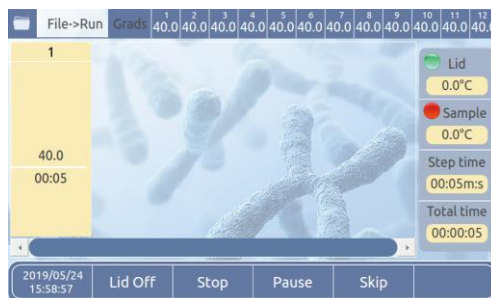

Figure 8
- a. Select the file to be run in the file library, click “Run” to enter the running interface, and click “Lid Off” or “Lid On” to switch the hot cover. The list on the right side of the graph shows the hot lid and module temperature, the current step time, and the total time. Click “Run” and the file will start running (see Figure 8).